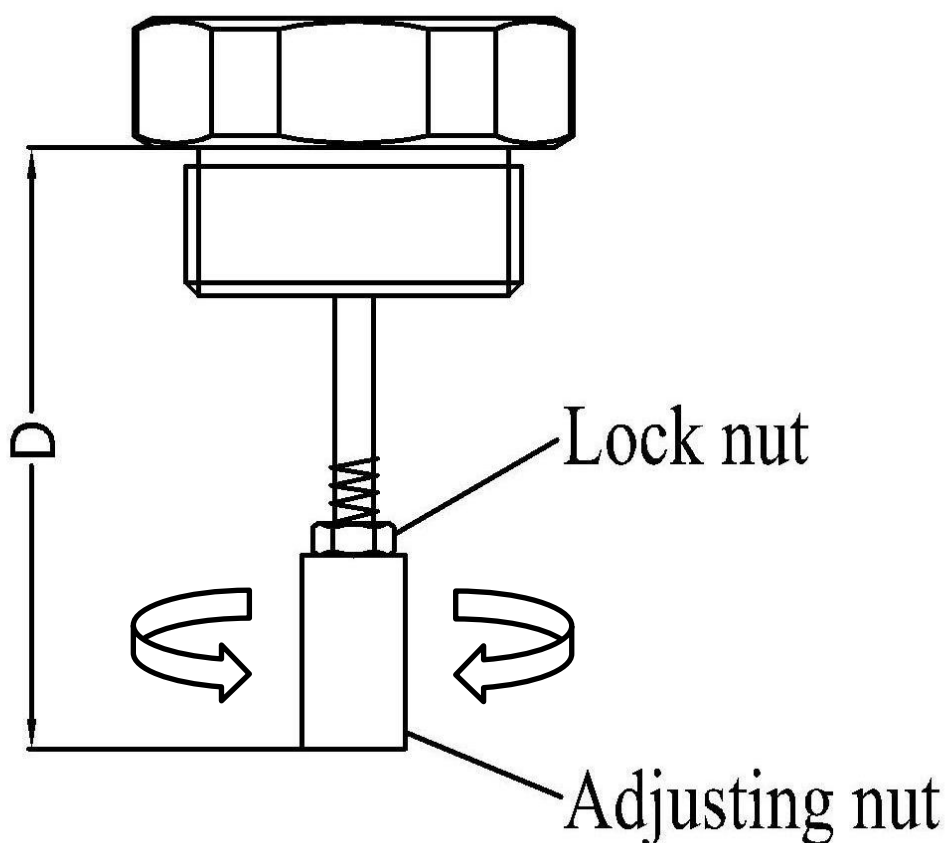

Figure 5. Travel sensor adjustment and measurement
3. Adjust the adjusting nut of the displacement sensor. Then measure the D value (as shown in Figure 5) by **the depth ruler** in the state of the displacement sensor being completely loosened. Calculate the compression value $L1 = D - C1$, $L2 = D - C2$. It is recommended that the compression value L1 and L2 are both in the reference range which is showed in Table 1. If L1 value or L2 value is unable to meet the reference range, adjust the D value according to the actual situation.